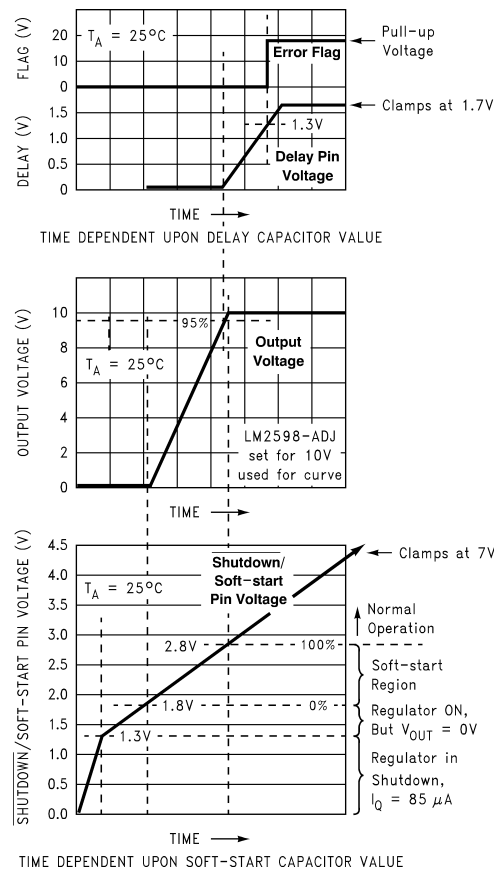
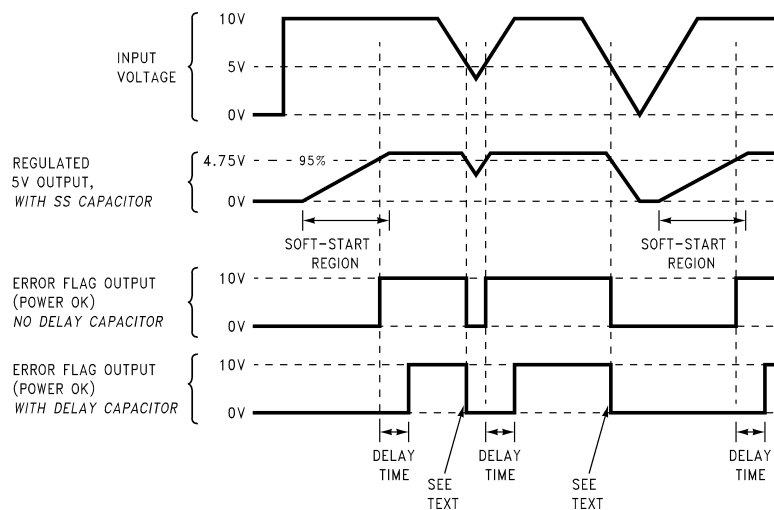

Figure 28. Soft-start, Delay, Error, Output
Figure 29. Timing Diagram for 5-V Output
A capacitor on this pin provides the regulator with a Soft-start feature (slow start-up). When the DC input voltage is first applied to the regulator, or when the Shutdown/Soft-start pin is allowed to go high, a constant current (approximately 5 μ A) begins charging this capacitor). As the capacitor voltage rises, the regulator goes through four operating regions (See the bottom curve in Figure 28).
3. Soft-start region: When the \overline{SD}/SS pin voltage is between 1.8 V and 2.8 V at 25°C, the regulator is in a Soft-start condition. The switch (Pin 1) duty cycle initially starts out very low, with narrow pulses and gradually get wider as the capacitor \overline{SD}/SS pin ramps up towards 2.8 V. As the duty cycle increases, the output voltage also increases at a controlled ramp up. See the center curve in Figure 28. The input supply current requirement also starts out at a low level for the narrow pulses and ramp up in a controlled manner. This is a very useful feature in some switcher topologies that require large start-up currents (such as the inverting configuration) which can load down the input power supply.
Note: The lower curve shown in Figure 28 shows the Soft-start region from 0% to 100%. This is not the duty cycle percentage, but the output voltage percentage. Also, the Soft-start voltage range has a negative temperature coefficient associated with it.
Provides delay for the error flag output. See the upper curve in Figure 28, and also refer to timing diagrams in Figure 29. A capacitor on this pin provides a time delay between the time the regulated output voltage (when it is increasing in value) reaches 95% of the nominal output voltage, and the time the error flag output goes high. A 3- μ A constant current from the delay pin charges the delay capacitor resulting in a voltage ramp. When this voltage reaches a threshold of approximately 1.3 V, the open collector error flag output (or power OK) goes high. This signal can be used to indicate that the regulated output has reached the correct voltage and has stabilized.